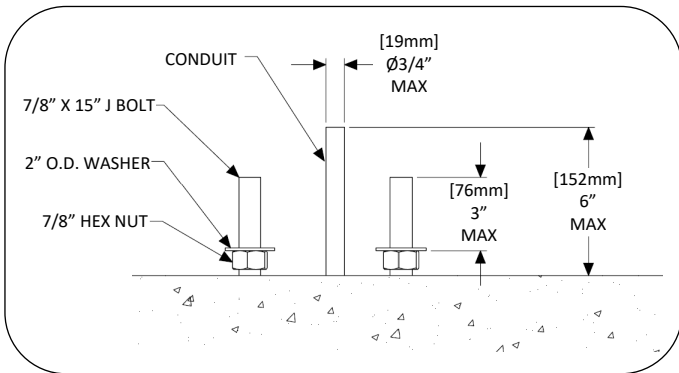

FIG. 3 – INSTALL ANCHORS
2. Anchor template has additional hole for conduit location, to be used if shelter is specified with lighting, see Fig. 3.